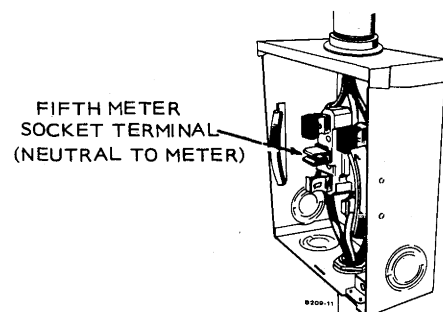

FIGURE 4
- 4** If there is a fifth meter socket used for metering neutral connection (Figure 4), install an Onan 318-0109 jaw assembly in accordance with supplied instructions.